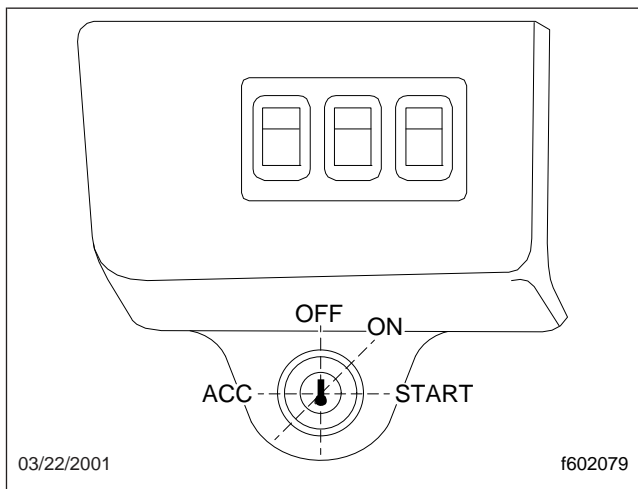

Fig. 7.7, Ignition Switch Positions
1. Turn the ignition switch to the on position. See Fig. 7.7. All the electronic gauges on the ICU (instrumentation control unit) complete a full sweep of their dials, the warning and indicator lights light up, and the buzzer sounds for 3 seconds.
1. Turn the ignition switch to the on position. See Fig. 7.7. All the electronic gauges on the ICU (instrumentation control unit) complete a full sweep of their dials, the warning and indicator lights light up, and the buzzer sounds for three seconds.
1. Turn the ignition switch to the on position. See Fig. 7.7. All the electronic gauges on the ICU (instrumentation control unit) complete a full
Turn the ignition switch to the on position. See Fig. 7.7.
The intake air preheater is activated by turning the ignition switch to the on position. See Fig. 7.7. If the engine is at normal temperature, the INTAKE HEATER indicator goes out after two seconds.